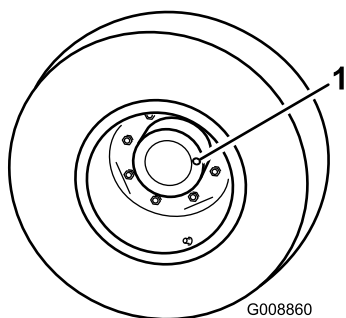

Figure 42
- With the machine on a level surface, position the wheel so that the check/drain plug (Figure 42) is at either the 3 or 9 o'clock position.
- Remove the plug on the planetary (Figure 42). Oil should be at the bottom of the check plug hole on the back side of the brake.